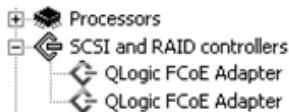

Figure 3-15. Typical QLogic 8100 Series Adapter Port Entry
- a. Click **SCSI and RAID Devices** (for FCoE Drivers). Find each port of the QLogic adapter FCoE function that is listed as QLogic FCoE Adapter under this section. Figure 3-15 shows typical entries for a dual-port QLogic 8100 Series Adapter.